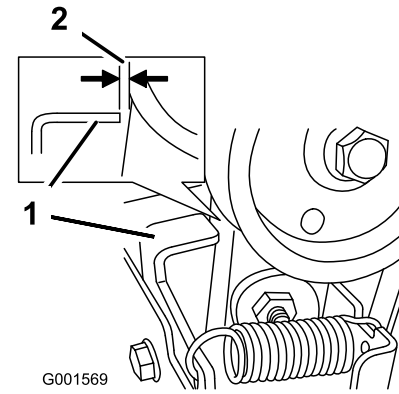

Figure 38
3. With the auger/impeller lever disengaged, ensure that the gap between the auger clutch assembly and the tab is 1/16 inch (1.5 mm) (Figure 38).